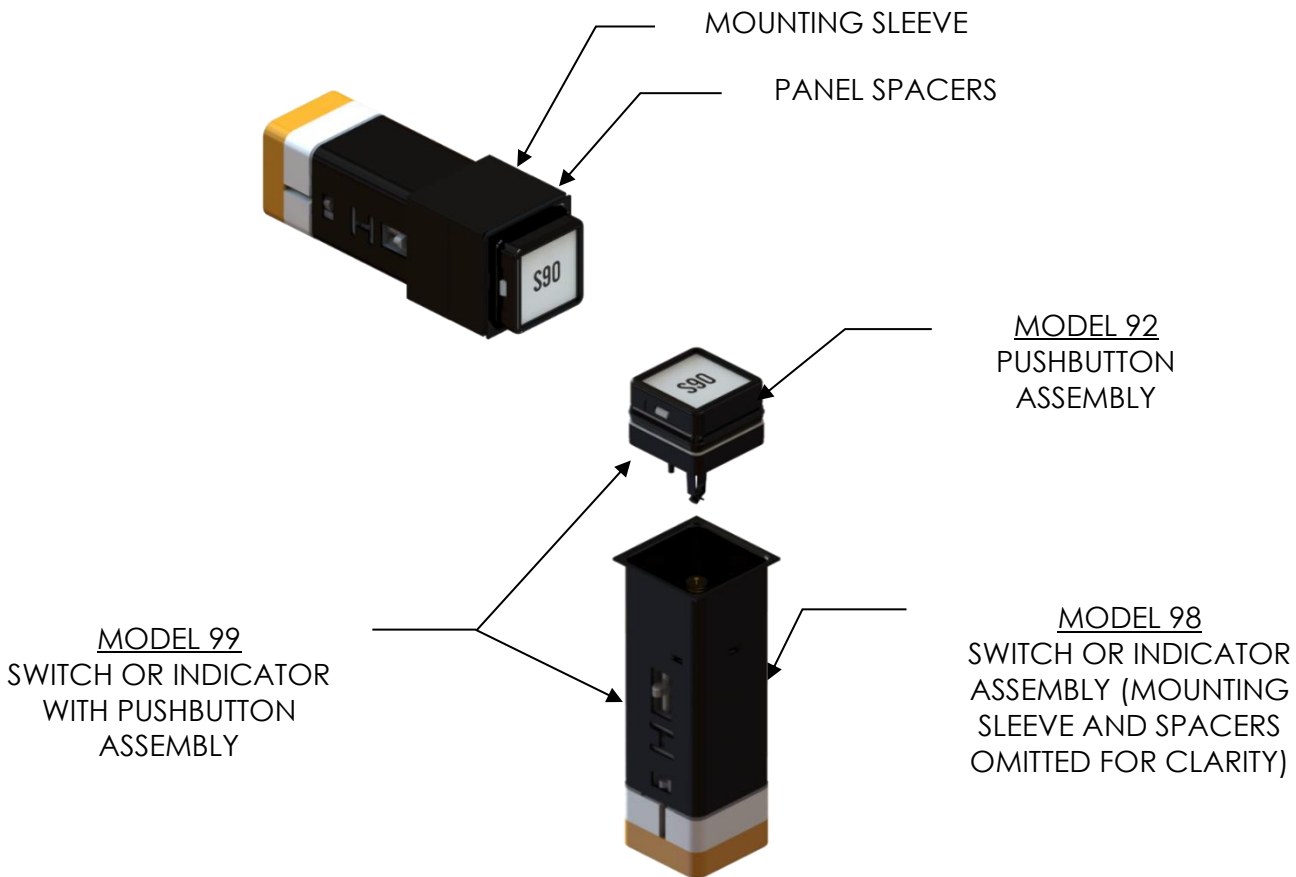

Figure 6: Model 99 "Coded" – Long Housing Shown
- Model 99 "Coded" Model 98 switch/indicator assemblies with standard pushbuttons installed (Figure 6: Model 99 "Coded" – Long Housing Shown).